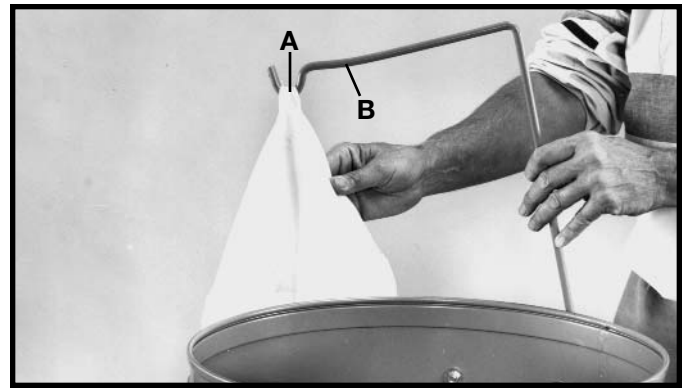

Fig. 18
1. Hook the loop on the top of filter bag (A) Fig. 18, onto filter bag support rod (B) as shown.
IMPORTANT: When the machine is not in use, the switch (A) Fig.18 should be locked in the OFF position using a padlock (C), with a 3/16" diameter shackle to prevent unauthorized use.